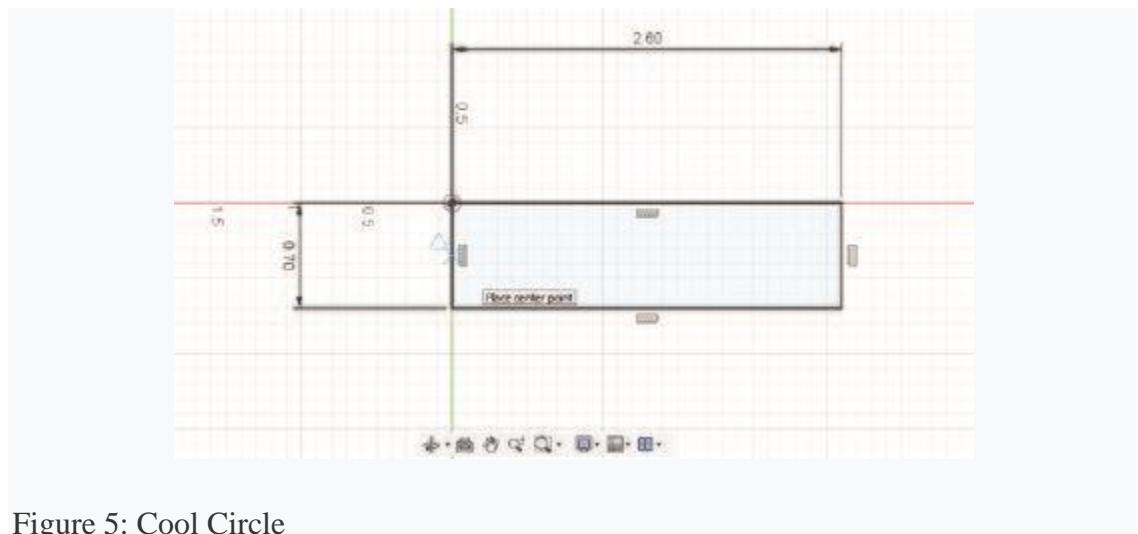

Figure 5: Cool Circle
- i. Draw a 0.7" diameter circle centered in the middle of one of the short sides of the rectangle (the cursor should snap to the center position and becomes blue X with a triangle when you get close.) (Figure 5)